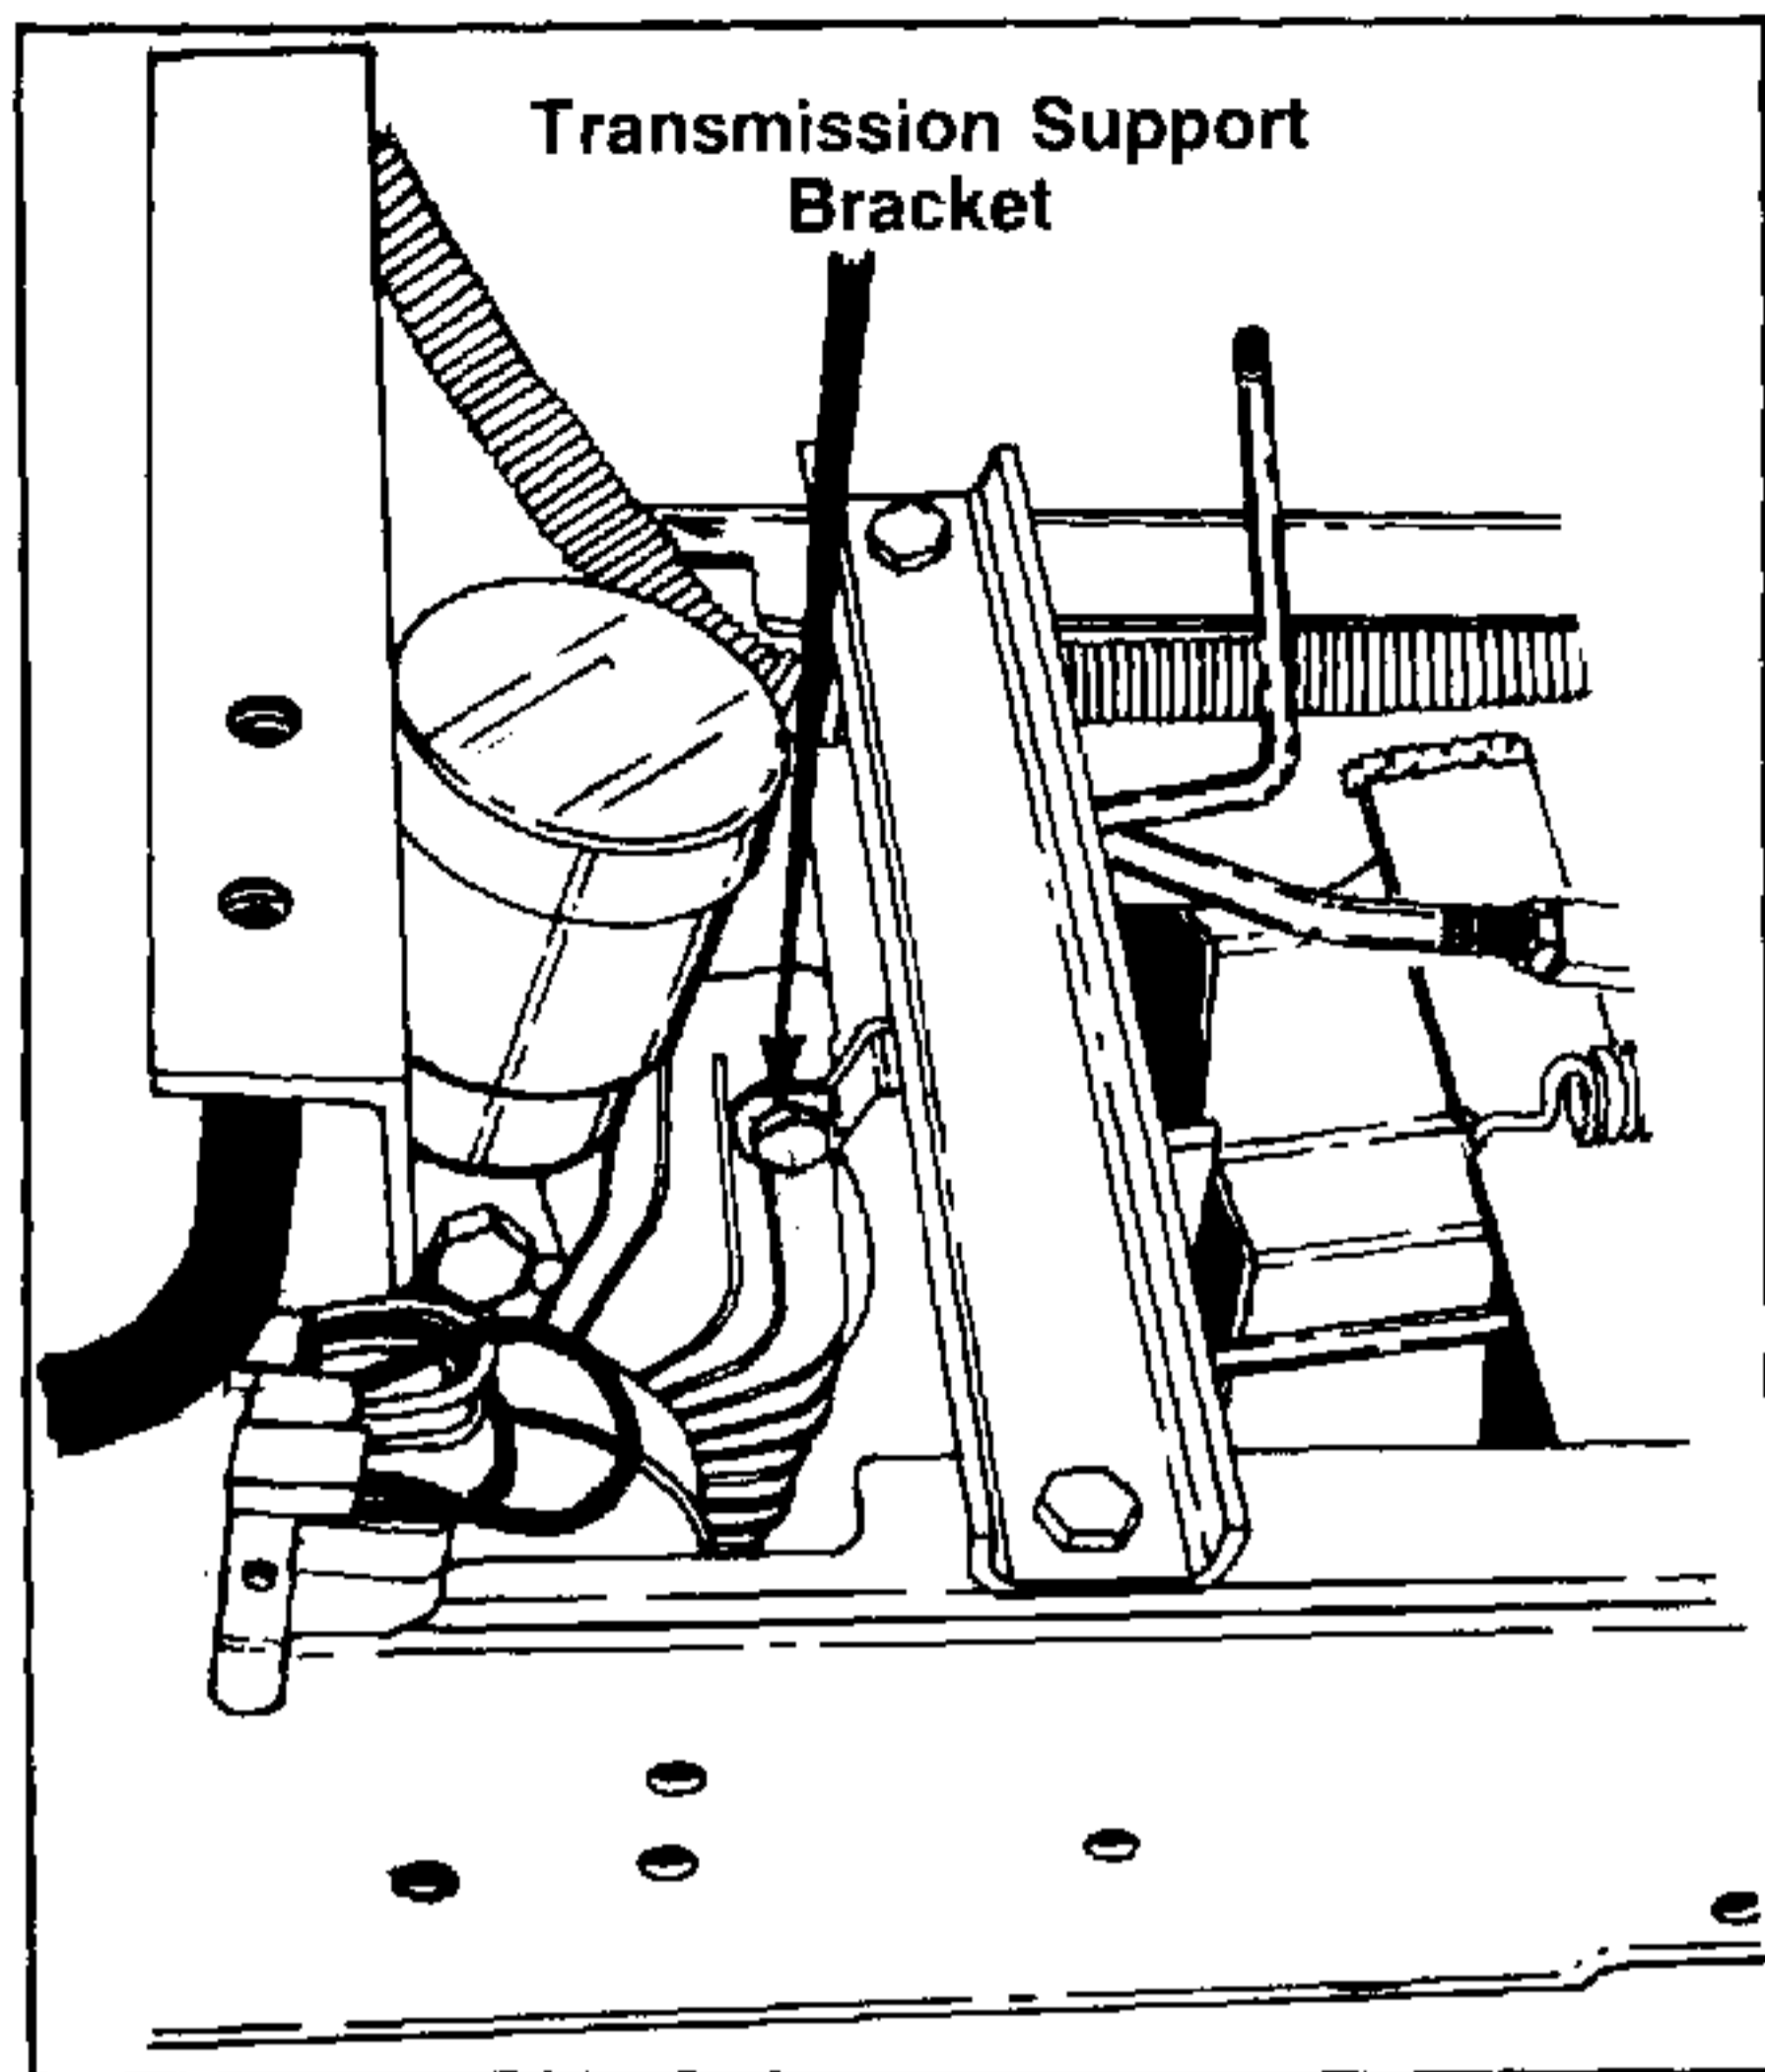

FIGURE 7.
7. Remove transmission support bracket, by removing two 3/8" x 1" cap screws and nuts. See figure 7.
NOTE: This bracket supports the front of the transmission. You will need to remove the two front transmission bolts to take the bracket completely off. See figure 7.